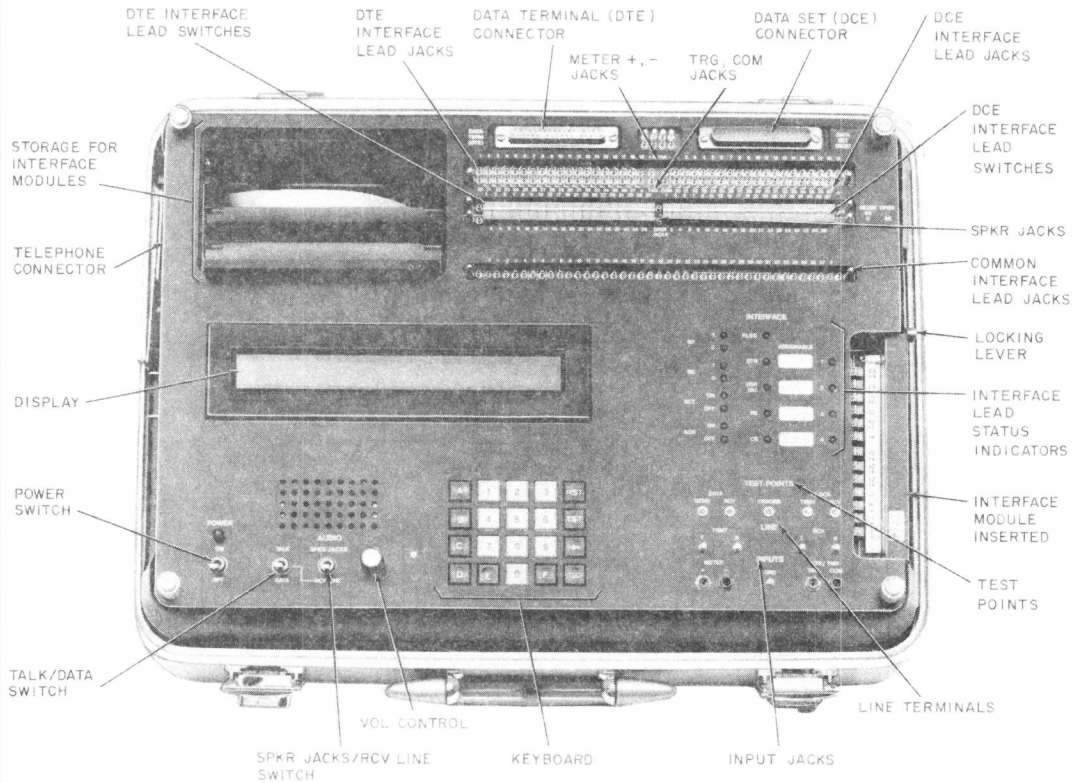

Fig. 1—921A Data Test Set—Front Panel
**1.05** The 921A DTS (Fig. 1) is a portable, general purpose data test set that provides the